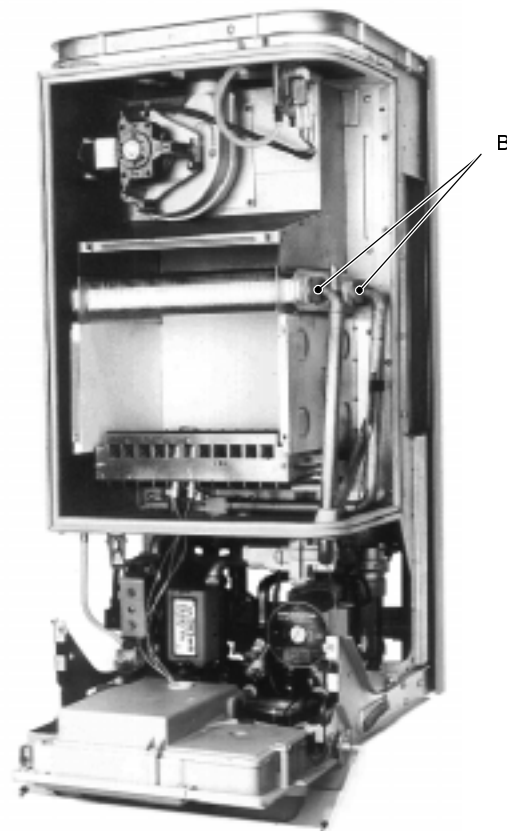

fig. 14
- 5 Separate the heat exchanger from the hydraulic circuit, loosening the inlet and outlet pipe fittings B (fig. 14);